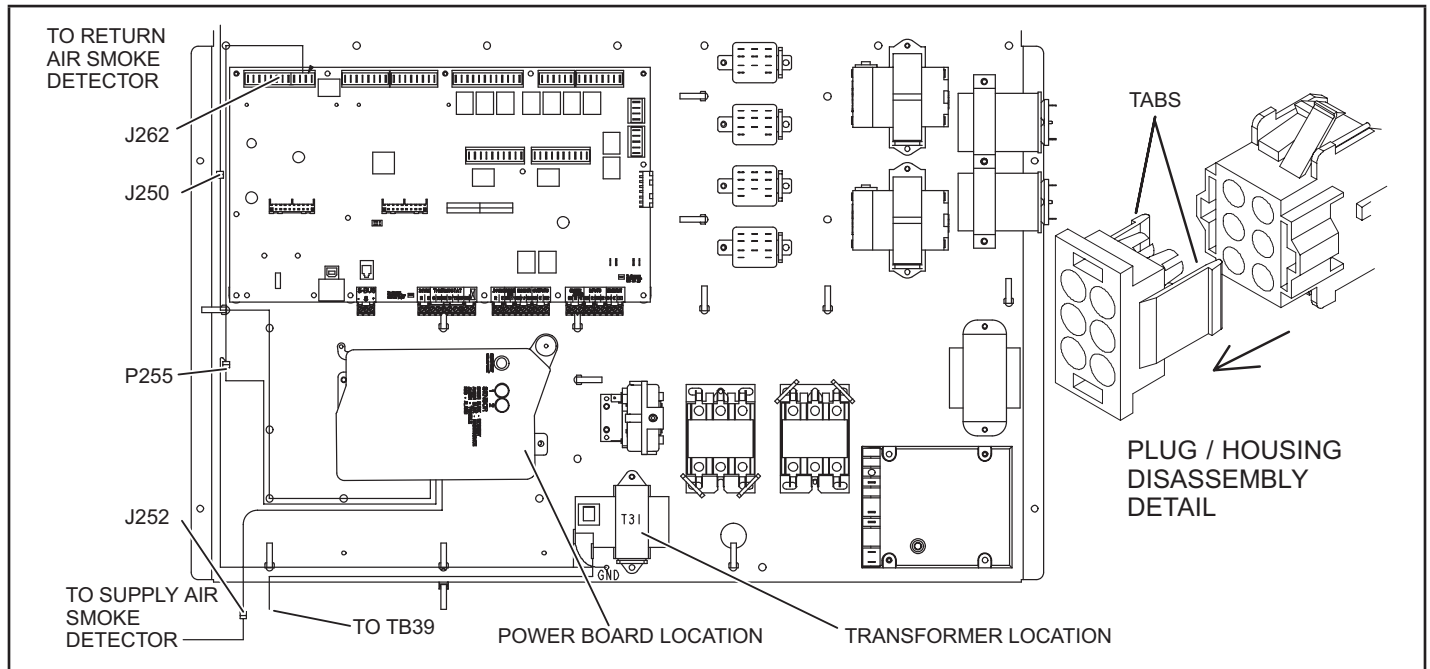
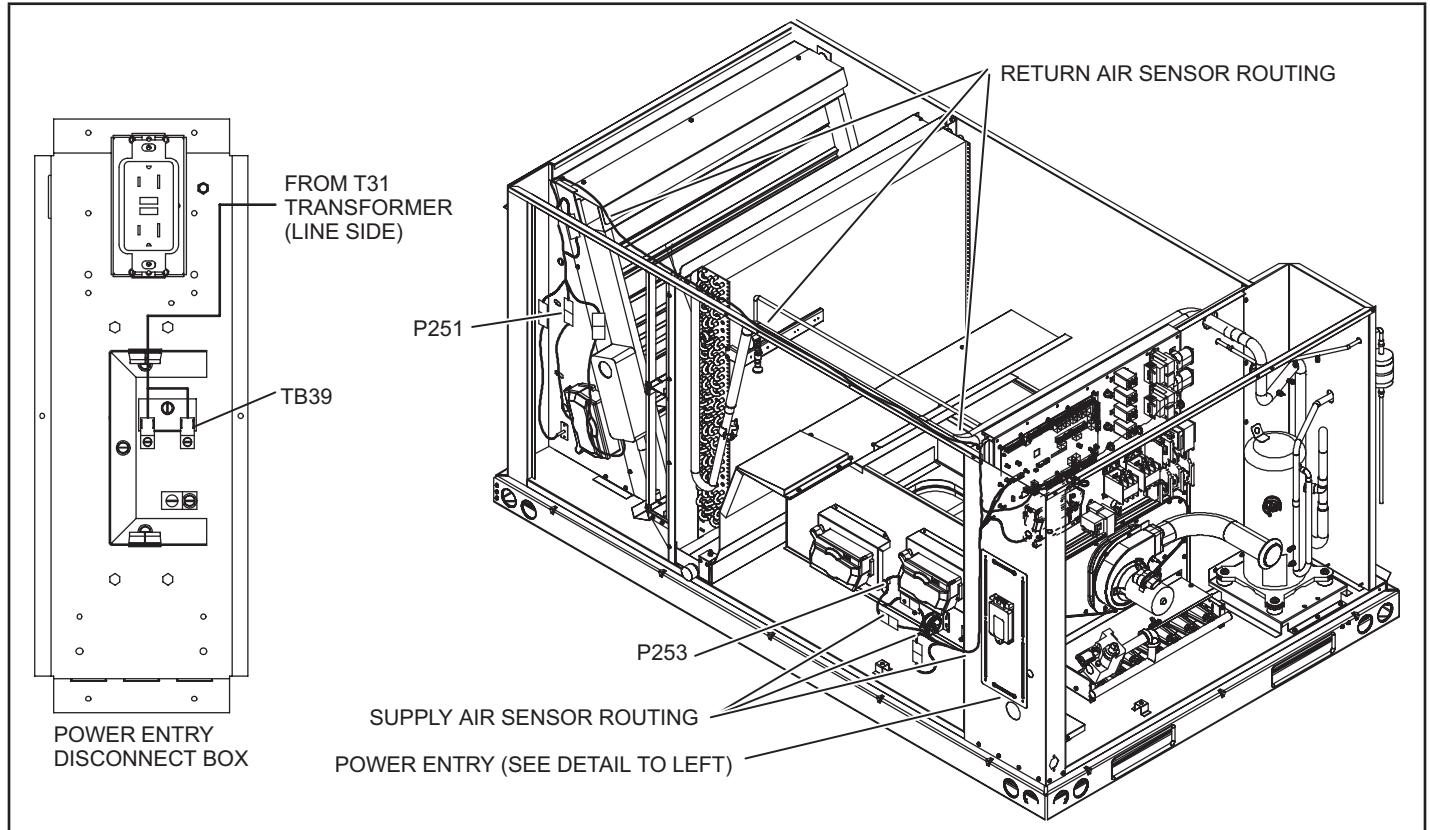
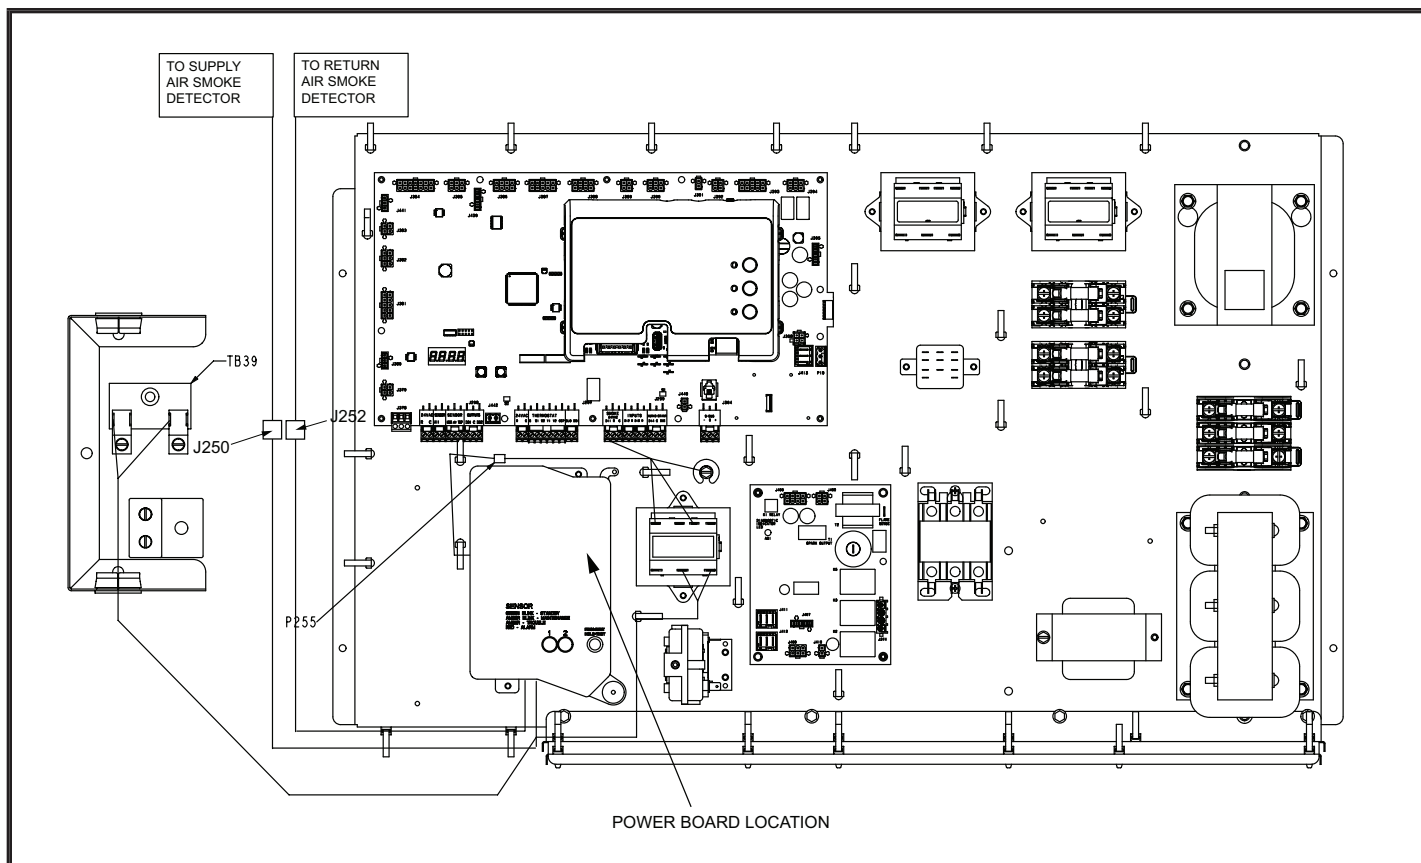

FIGURE 4 Power board / transformer location (M3 Board)
FIGURE 5 Wiring harness routing
FIGURE 6 Power board / transformer location (M4 Board)
Mount transformer to control board panel next to the smoke detector power board as shown in FIGURE 4.
- 2 - Route return air sensor harness to the top of the unit and secure to existing bundle of wires. Route supply air sensor harness through hole provided near the bottom of the indoor/controls divider panel (see FIGURE 5). Make sure wires are secured away from other components.
NOTE - It may be necessary to disassemble plugs in order to route harness through unit divider panels. To disassemble plugs, depress tabs on each side and slide end of plug out in the direction shown. Pull each wire out of the plug housing making sure to note correct pin location for reassembly. See FIGURE 4 (M3 Board) and FIGURE 6 (M4 Board).
- 3 - Route T31 transformer harness from line side of transformer to TB39 located on back of main disconnect box (see FIGURE 5). Connect load side of transformer to smoke detector control board power harness. See FIGURE 4 (M3 Board) and FIGURE 6 (M4 Board).